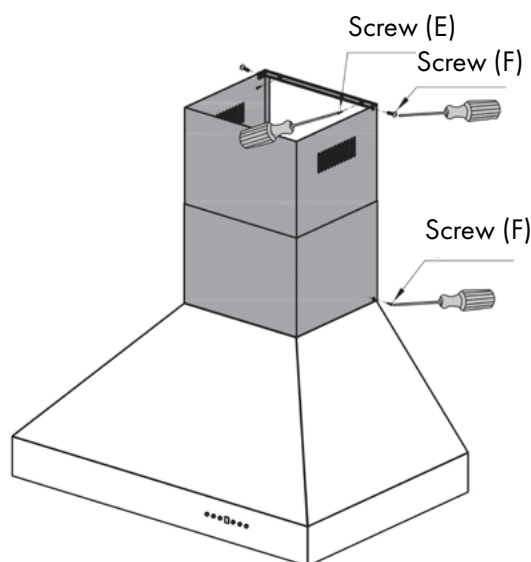

Figure 7
8. Install the two-part telescoping chimney on top the hood. Slide the inside section up until the vertical vent slots are visible, then attach the top portion to the mounting bracket with 2 screws (F). Secure the lower portion to the hood with 2 screws (F). NOTE: Screw (E) noted below was installed earlier in step 4. *Figure 7*